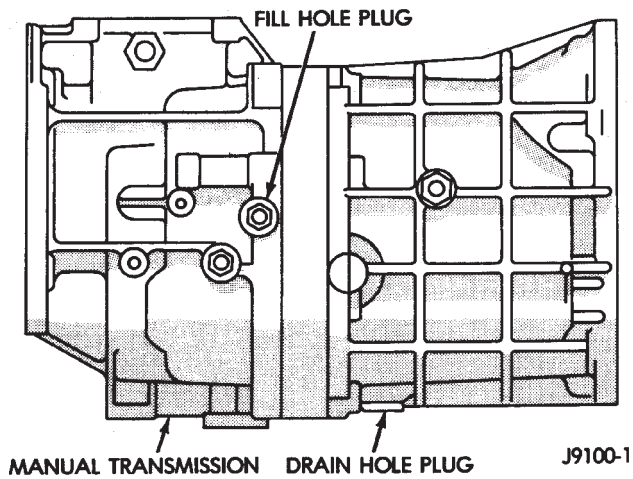

Fig. 3 Manual Transmission Fill- & Drain-Hole Plugs—Typical
The fill-hole plug for all manual transmissions is located on the right side of the case (Fig. 3). Determine the lubricant level according to the following procedure.
(1) Remove the fill-hole plug (Fig. 3) from the transmission. The lube oil should be level with the bottom edge of the fill hole. The level can be slightly below the bottom edge of the fill hole if the lube oil is cold.